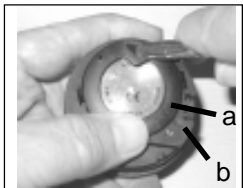

Fig. 83 - Securing the
- Using your fingers, turn the Ring counter clockwise 5 degrees until the tabs engage (Fig. 82), then tighten it 5 more degrees by turning it counter clockwise with the aide of a small blade screwdriver (Fig. 83).
NOTE: While tightening (turning) the Retaining Ring, exert continuous inward pressure on it until it is secured in the proper position. A small symbol located on the Ring should be aligned with the Locked symbol located on the Housing (Fig. 83 a/b)